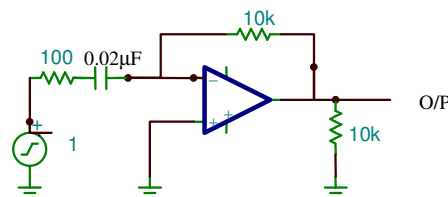

Fig. 4h Differentiator circuit
9. Make the circuit as in Fig 4h. Choose the input as 10mV, 5KHz sinusoidal ac signal. Calculate the phase difference between the input and output signal. Repeat the experiment for square and triangular wave ac inputs.